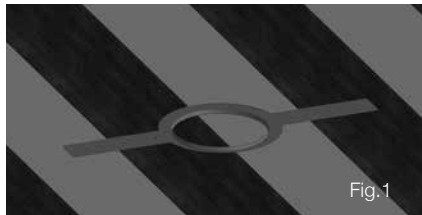

Fig.1
1. Nail or screw the plaster ring to the joists. (Fig. 1)